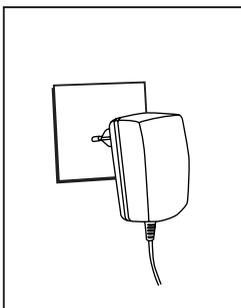

Fig.5
3) Connect the charger to the mains. (Fig.5)